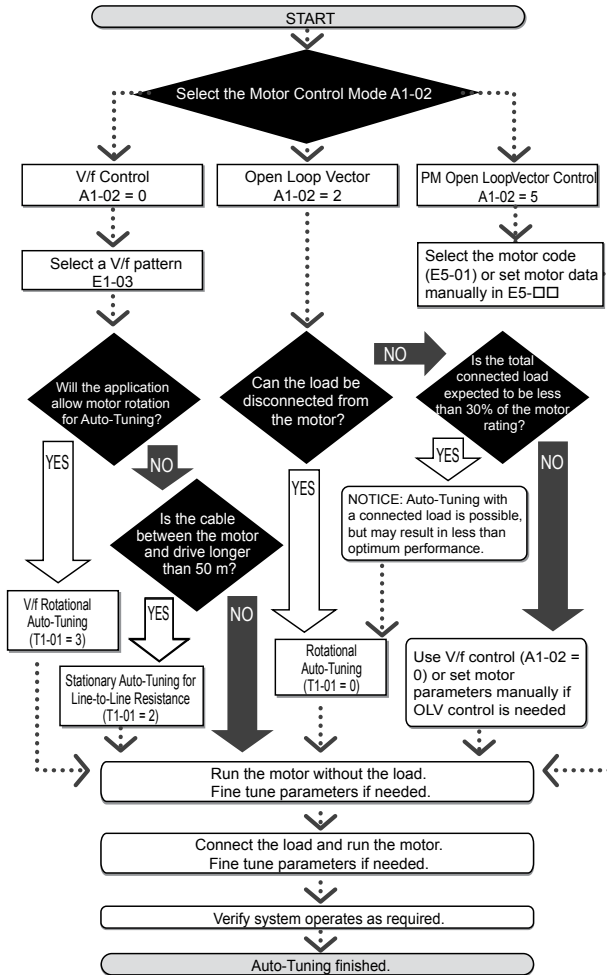

Figure 4.15 Auto-Tuning Selection
2. Determine which type of Auto-Tuning best fits the application requirements following *Figure 4.15.*